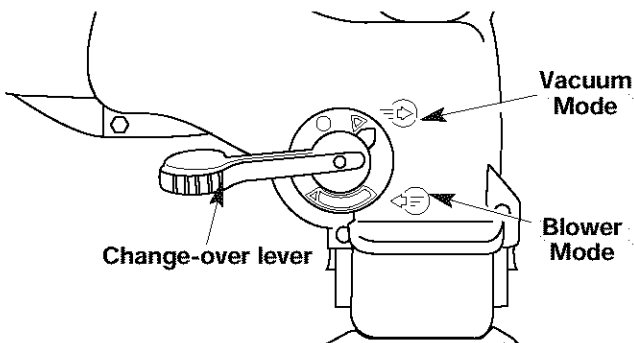

Fig. 17
2. Set the blower/vacuum mode change-over lever to the down position (Vacuum Mode) (Fig. 17).